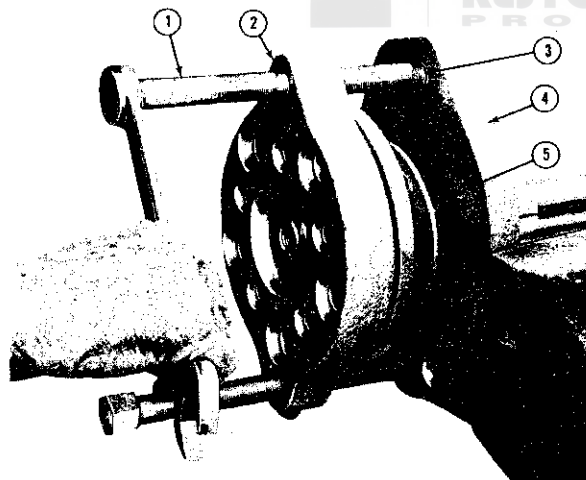

FIG. N-14—REMOVING AXLE SHAFT BEARING
c. Attach puller tool W-343 to axle shaft flanged end using the wheel lug nuts. Position puller bolts against dimples of holding ring and alternately tighten until bearing is pressed from shaft, as shown in Fig. N-14.